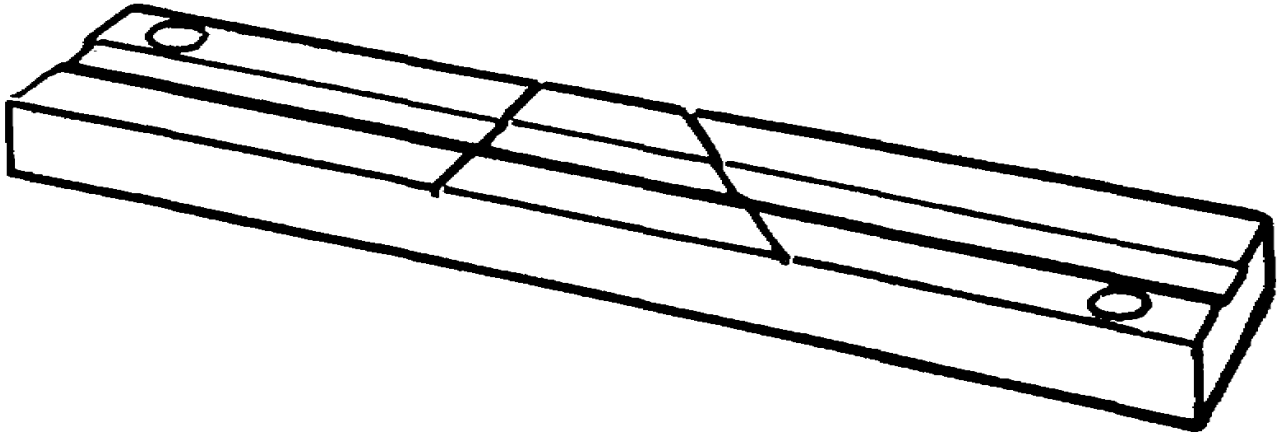

Figure 4-35. The EdiTall tape editor
a. An “editing block” is simply a block (metal or plastic) with a channel cut in it to hold the tape and cutting grooves at 45 and 90 degrees. The editing block can be fixed firmly to the table by using bolts or screws (fig 4-35).